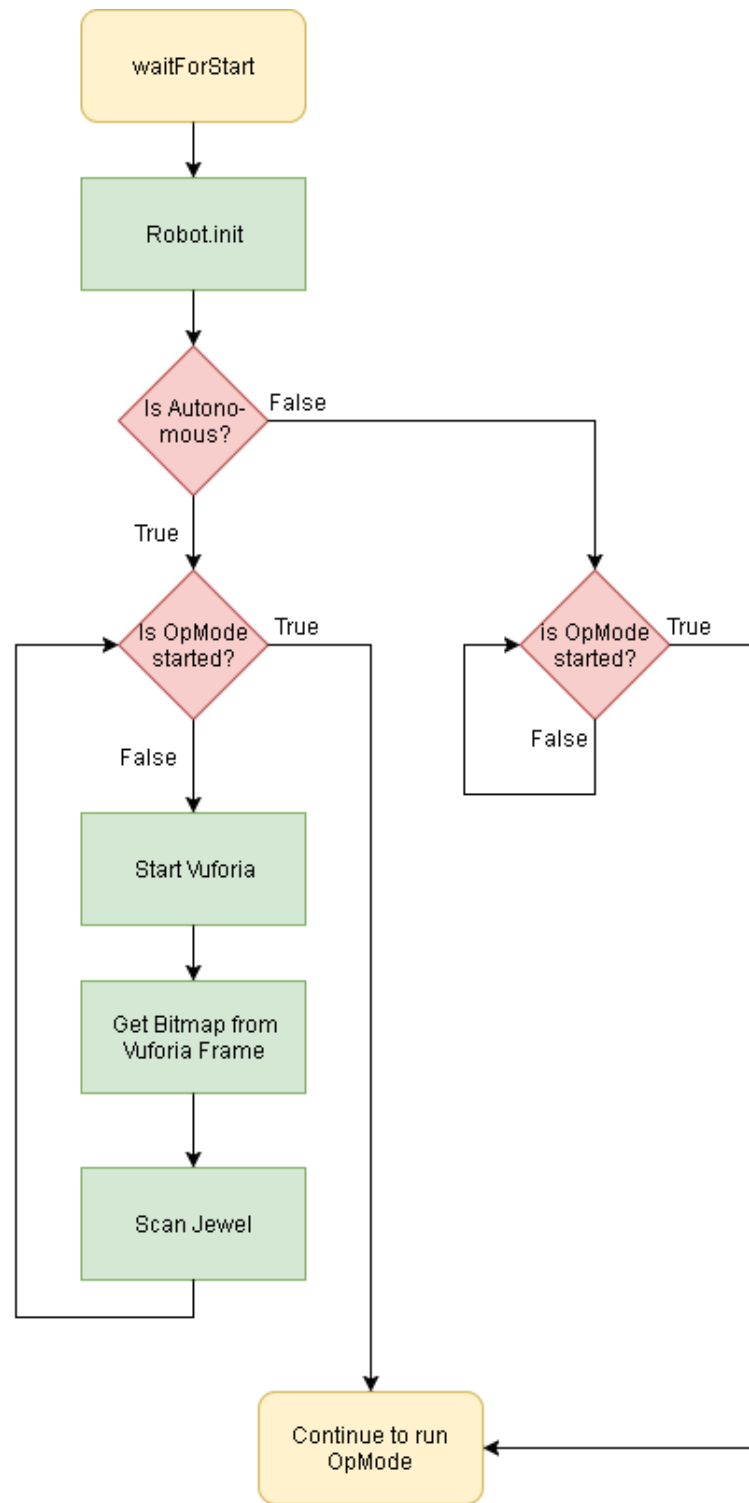

Figure 1-6
- Figure 1-6 shows the process of how we scan for the jewels during initialization.